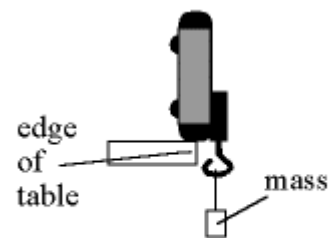

Figure 2: Hanging a mass from a force sensor.
1. The first thing you should check is that the force sensors respond in the same way to identical forces. If either sensor has a screw attached replace the screw by a hook. Pick one cart, stand it on its end on the edge of the table with the hook hanging down (see figure 2), and hang a mass off the hook. Check the force reading. Repeat for the other cart. If the forces have the same magnitude you can go to part II. If not you should calibrate the sensors.
- c. Now rest the cart on end against the edge of the table with the mass hanging vertically down from the hook (see figure 2). The mass has a weight of about 10 N, so enter the number 10 in the Value 2 box. When the reading shown for Input 1 is stable, click .